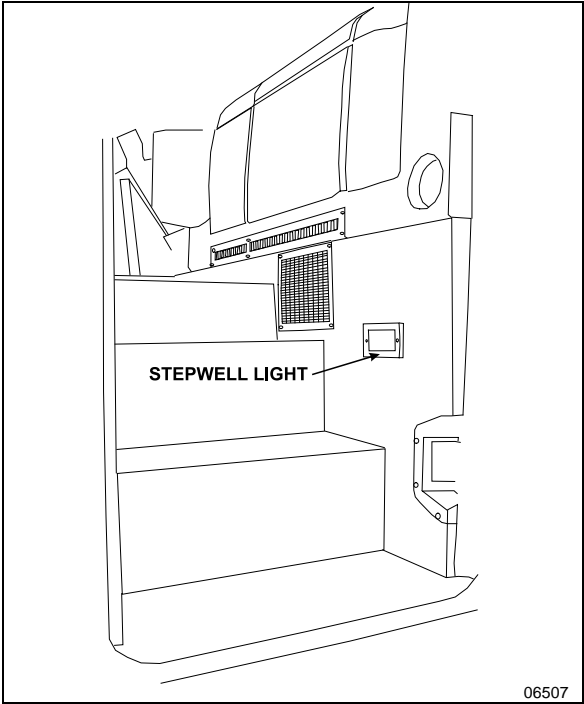

FIGURE 70: VIP ENTRANCE STEPWELL
3. To install a new switch, reverse the procedure (**FIGURE 70**).